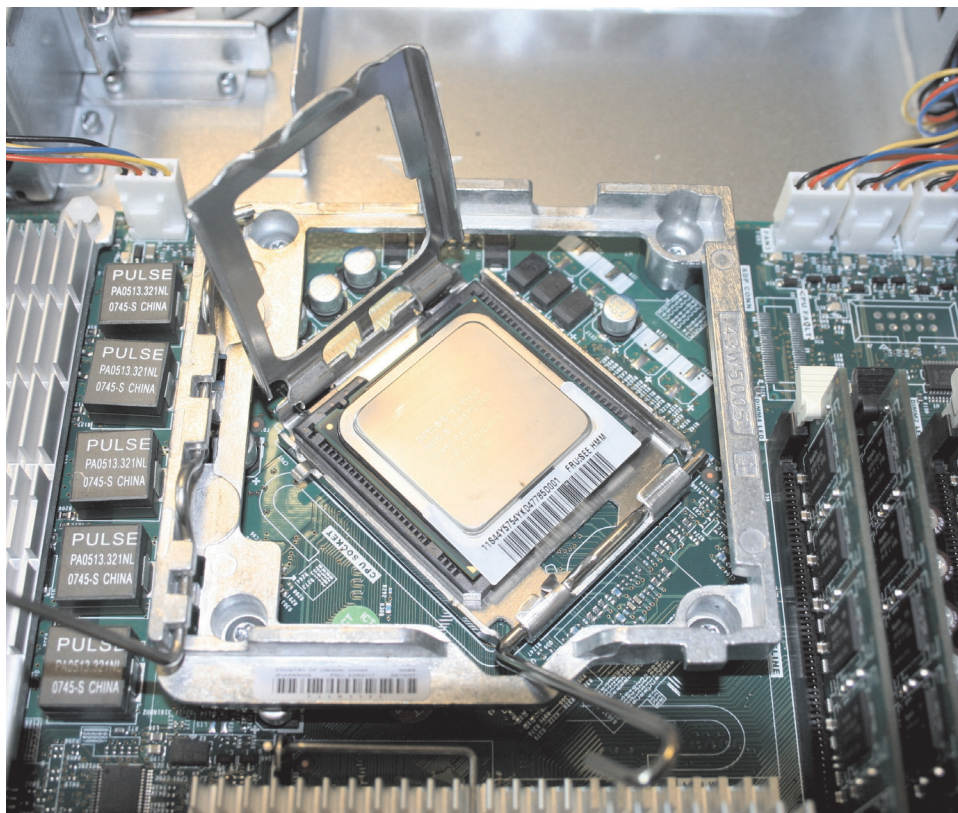

Figure 291. The SAN Volume Controller 2145-8A4 microprocessor bracket frame fully opened
2. Orient the microprocessor retention module as shown in Figure 291.